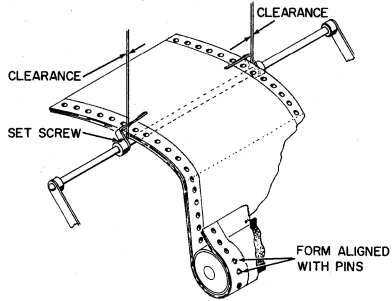

Figure 4
2. Loosen the set screws on the form guides (Figure 4) and position them laterally so they keep the forms feeding straight with a slight amount of side play. Position the guides rotationally in line with the arms and tighten the set screws.